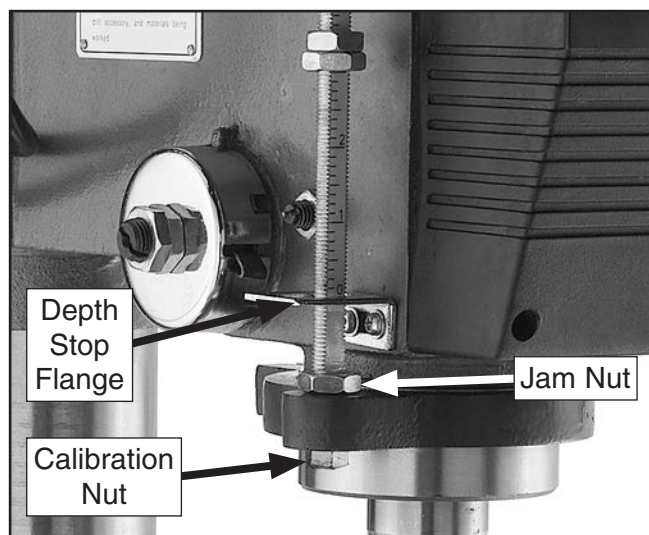

Figure 52. Depth stop assembly.
1. Loosen the jam nut and calibration nut shown in **Figure 52**.